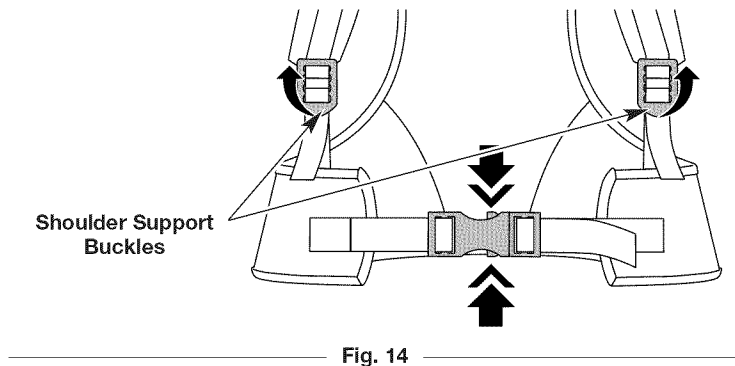

Fig. 14
1. Pull the tabs on the bottom of the shoulder support buckles up to loosen the shoulder supports (Fig. 14). Pull the tab on the waist clip up to loosen the waist support.
2. Squeeze the top and bottom of the waist clip to disconnect the waist clip (Fig. 14).